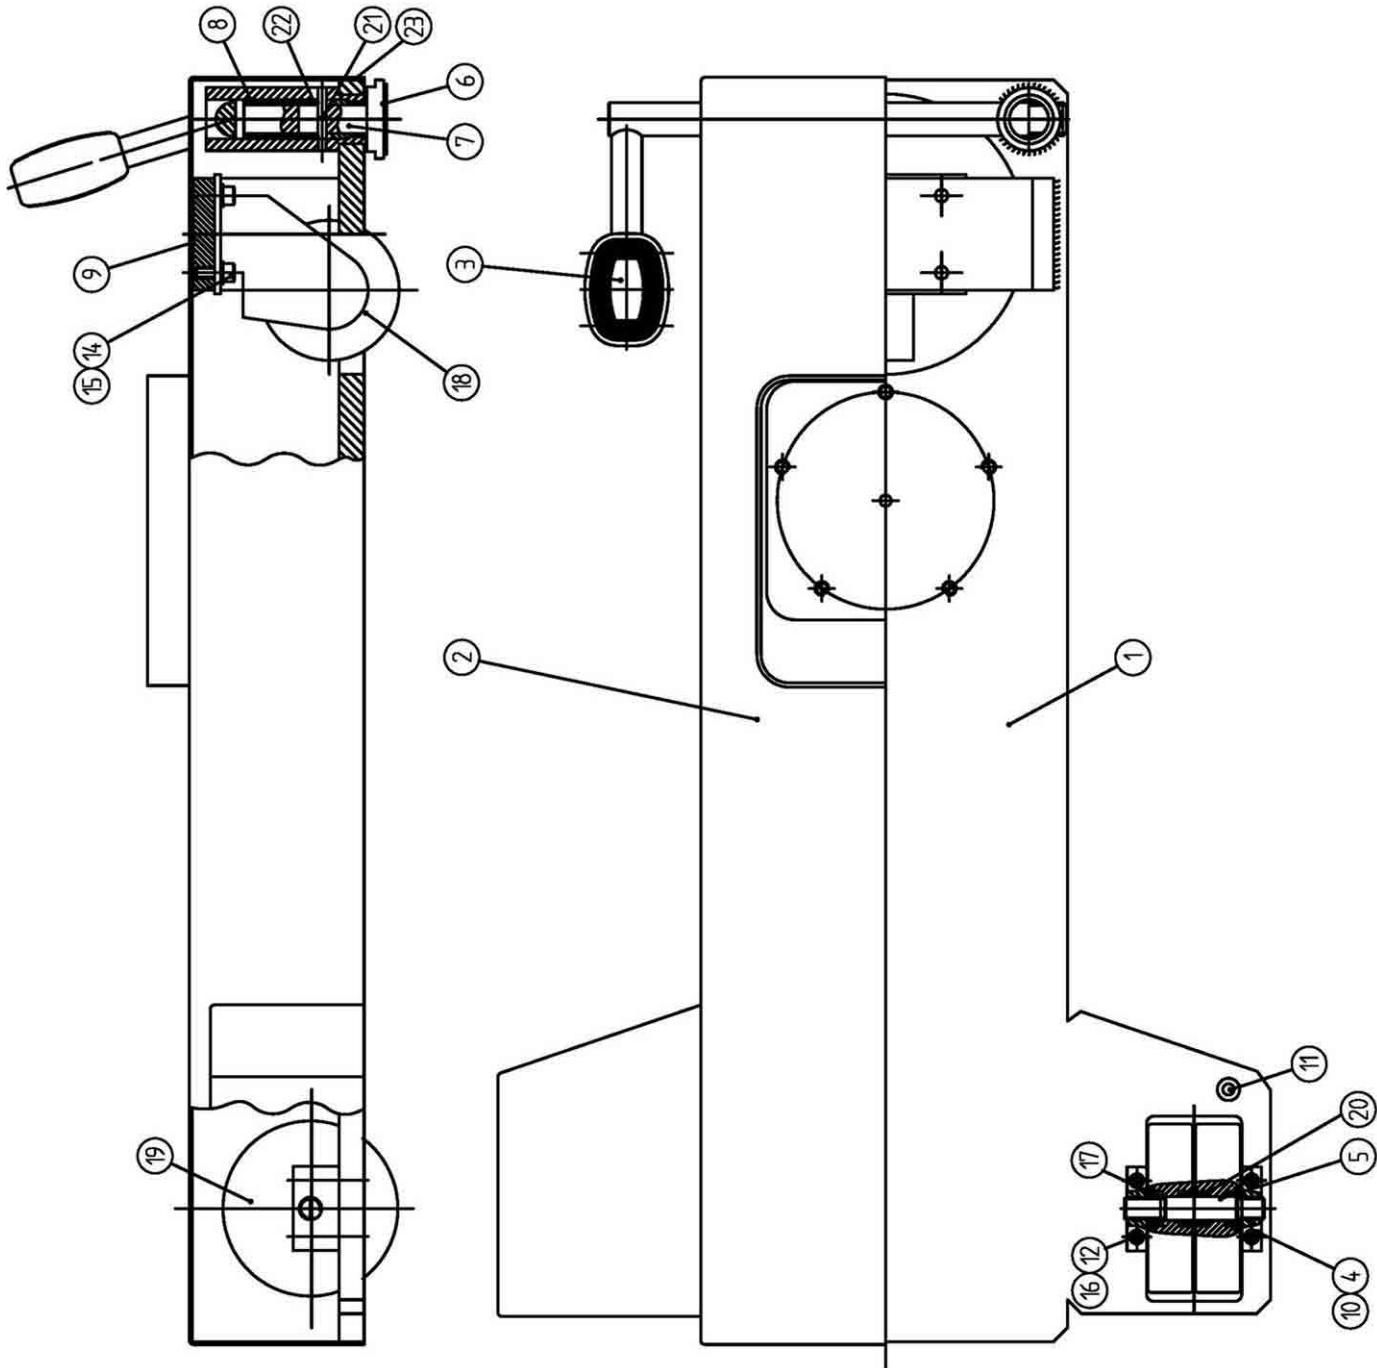

Fig. 12 Base of the table set (in standard version)
Disassembly of rotating wheel (item 18 on fig. 12)
7. Unscrew M6 screws (item 11 on fig. 12).
8. Unscrew the lock pedal (item 3 on fig. 12) [turning it to the left] and remove it from the basis,
9. Lift the protection set (item 2 on fig. 12),
10. Unscrew M8 screws (item 14 on fig. 12) and remove them with the washers (item 15 on fig. 12),
11. Remove the wheel (item 18 on fig. 12).
Assembly of rotating wheel (item 18 on fig. 12)
1. Put the wheel (item 18 on fig. 12) on the framework of the basis and screw M8 screws with washers (item 14, 15 on fig. 12),
2. Place the cover set (item 2 on fig. 12),
3. Screw the lock pedal (item 3 on fig. 12) (screw it to the right till resistance is felt and then unscrew by two rotations),
4. Screw M6 screws (item 11 on fig. 12) which fix the cover to the plate set (item 1 on fig. 12),
Disassembly of non-rotating wheel (item 19 on fig. 12)
1. Perform activities according to items 1 ÷ 6 of instructions for ‘Disassembly of a rotating wheel (item 18 on fig. 12)’,
2. Unscrew M6 screws (item 12 on fig. 12) and remove washers (item 16 on fig. 12),
3. Take out the wheel (item 19 on fig. 12) with brackets (item 4 on fig. 12),
4. Unscrew one of the two brackets (item 4 on fig. 12) and remove the wheel with the distance sleeve (item 10 on fig. 12) from the screw of the wheel (item 5 on fig. 12).
Assembly of non-rotating wheel (item 19 on fig. 12)
1. Put the wheel with distance sleeves (item 10 on fig. 12) on the screw of the wheel (item 5 on fig. 12),
2. Screw the bracket (item 4 on fig. 12) on the screw of the wheel (item 5 on fig. 12),
3. Put the wheel (item 19 on fig. 12) in the basis,
4. Place washers (item 16 on fig. 12) and screw M6 screws (item 12 on fig. 12)
Perform activities according to items 2 ÷ 7 of instructions: ‘Assembly of a rotating wheel (item 18 on fig. 12)’.